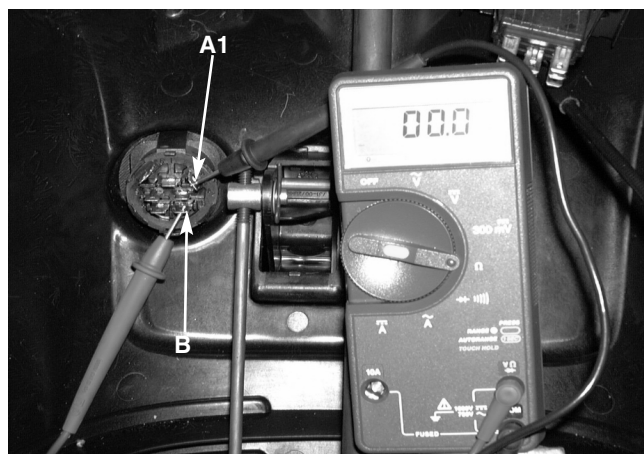

FIGURE 23.
–There will be **CONTINUITY**. See figure 23.